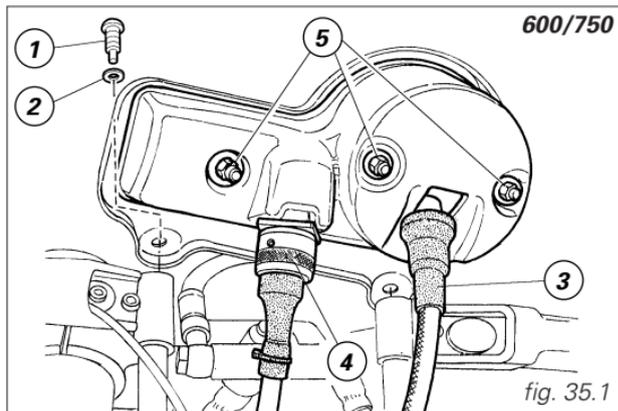

fig. 35.1
**600/750 instrument panel (fig. 35.1)**